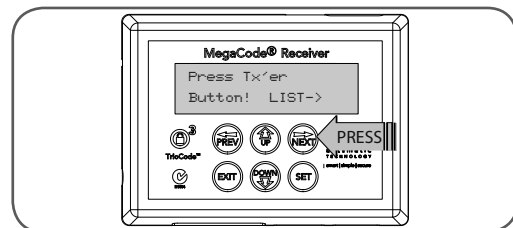

fig 11
3. Press NEXT to enter the transmitter list and edit mode (Fig. 11). This is used if the transmitter is not available.